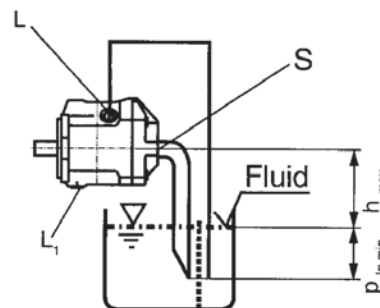

Fig. 4
b) If the minimum fluid level is below the top of the pump, pipe ports "L", "L₁" and possibly "S" as fig. 4. The conditions correspond to item 1.2.1.
a) When mounting above the tank, see fig. 4. Conditions correspond to 1.2.1.